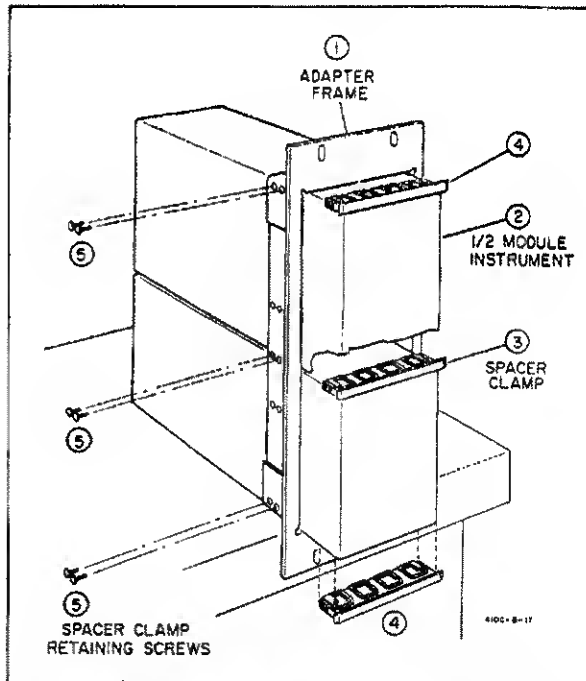

Figure 2-4. Two Half Modules in Rack Adapter.
a. Place the adapter frame on edge of bench as shown in step 1, Figure 2-4.
b. Stack the submodular units in the frame as shown in step 2, Figure 2-4. Place the spacer clamps between instruments as shown in step 3, Figure 2-4.
c. Place spacer clamps on the two end instruments (see step 4, Figure 2-4) and push the combination into the frame.